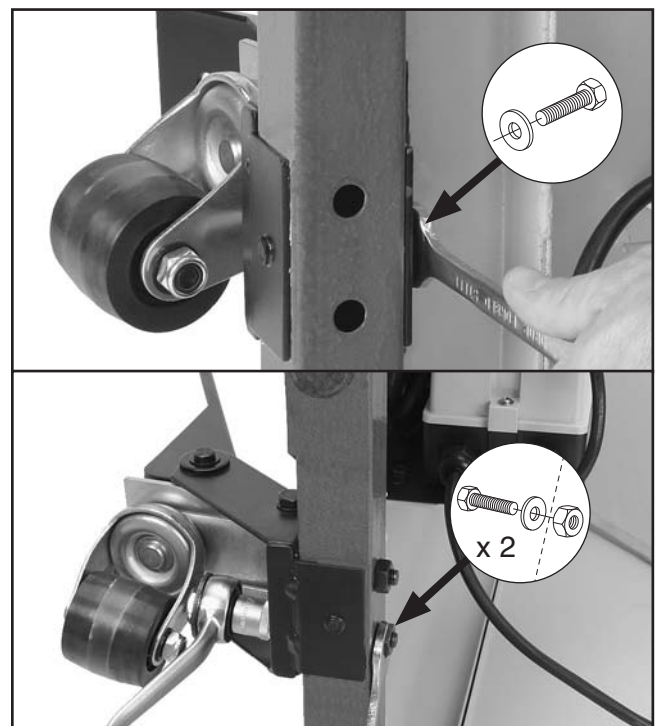

Figure 8. Installing the pedal assembly.
9. Attach the pedal assembly to the right side of the stand with (1) M8-1.25 x 50 hex bolt, (2) M8-1.25 x 55 hex bolts, (3) 8mm flat washers, and (2) M8-1.25 hex nuts, as shown in **Figure 8**.